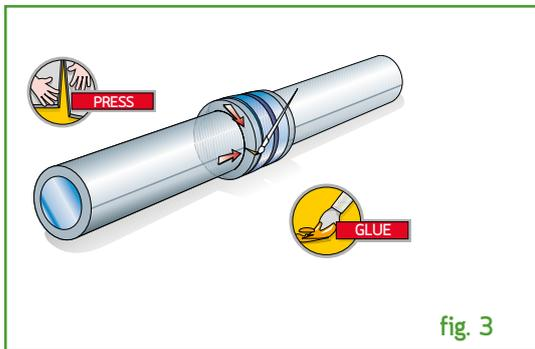

fig. 3
- 3) Make a rounded cut at the end of a sleeve to create the correct shape that can fit into the sleeve with the hole (**fig 3**)
After applying the MATIBLOCK glue at necessary points of the insulation and flange, glue the rings of insulation materials to the side of the flanges. **(fig 3)**